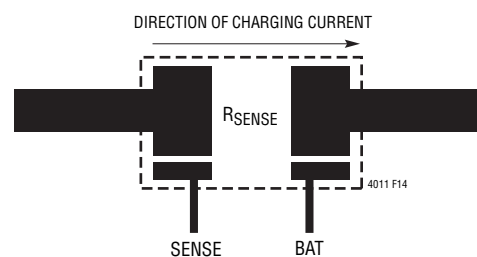

Figure 14. Kelvin Sensing of Charge Current
- For best current programming accuracy, provide a Kelvin connection from  $R_{SENSE}$  to SENSE and BAT. See Figure 14 for an example.